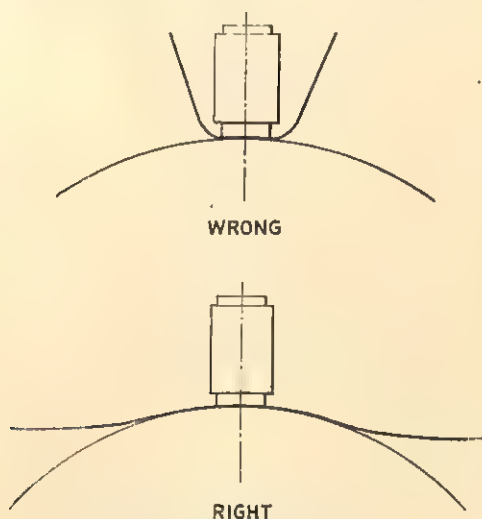

Fig. 8.—Method of bedding-in brushes to avoid rounding edges of brush
3. **BEDDING-IN.** Brushes are sold with either flat ends or, in the case of those specially produced for a particular machine, with the ends roughly shaped to the correct radius. In either case, they must be carefully bedded to the commutator surface. This is done with a piece of fine glasspaper between brush and commutator, pulled backwards and forwards until the operation is almost complete. The final bedding should be done *one way only* (in the direction of rotation). Care should be taken to use a long strip, and keep it close to the commutator (see fig. 8), to avoid rounding the edges of the brush. An exception to the general rule that brush edges must not be rounded is made in the case of reaction brushes, when the leading edge should be brought to a slight radius, to avoid chattering due to a sharp edge catching in the commutator slots where the mica is undercut. Spring pressures should be increased to the maximum for bedding in.